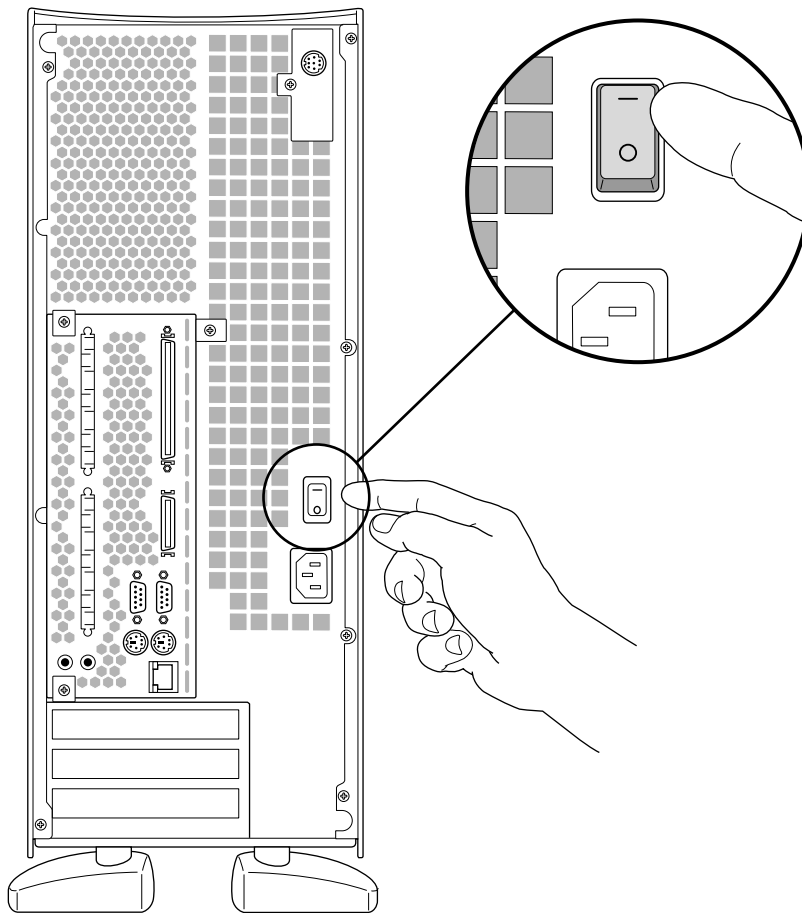

Figure 4-2 Turning On the Master Power Switch
1. At the rear of the system, turn the master power switch on, as shown in Figure 4-2.